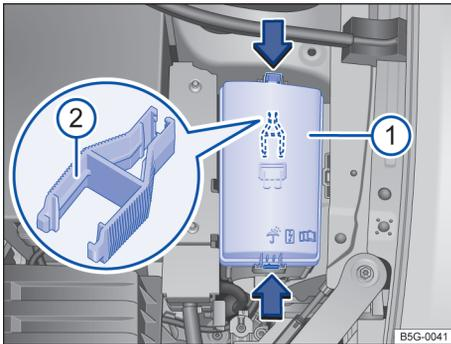

Fig. 158 In the engine compartment: fuse box cover  with plastic claw .
- Press the retainers in the direction of the arrow → Fig. 158  to release the fuse box cover.
On the inside of the engine compartment fuse box cover there may be a pair of plastic tweezers → Fig. 158  to extract the fuses.